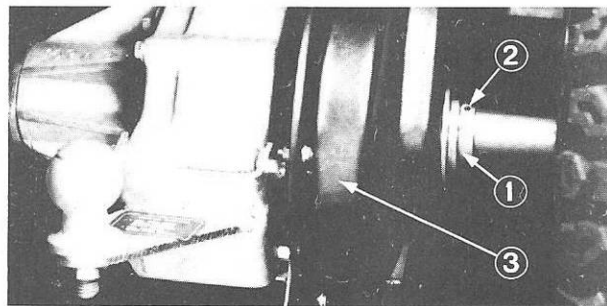

Fig. 39 ① Mud Slinger ③ Outer Cover
1. Loosen the mud slinger set screw on the right axle (Figure 39).